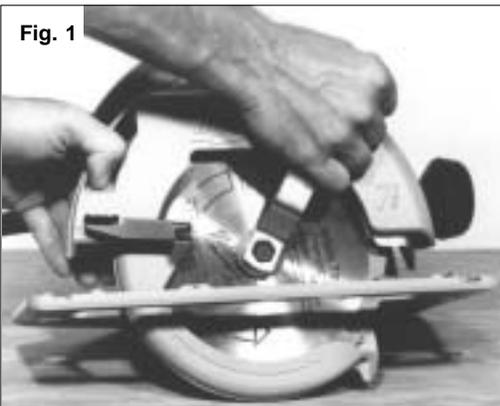

Fig. 1
Installing and Removing Blades on 7-1/4" & 8-1/4" Saws (Fig. 1 & 2)
2. To remove the bolt from the spindle, push in the spindle lock button. While holding in the spindle lock button, use the wrench provided with the tool to turn the bolt counterclockwise (Fig. 1). Remove the bolt and spindle flange.
Installing and Removing Blades on 10-1/4" Saws (Fig. 1 & 2)
2. To remove the bolt from the spindle, use the wrench provided with the tool to turn the bolt counterclockwise (Fig. 1). Hold the blade steady by inserting a screwdriver between the teeth of the blade and the bottom of the shoe or by jamming the blade into a piece of wood. Remove the bolt and spindle flange.